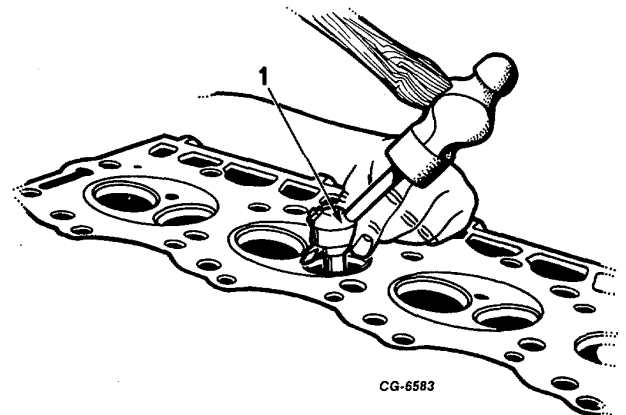

Fig. 120 Staking Valve Seat Insert in Cylinder Head with Peening Tool
5. Stake valve seat inserts securely in place. Use peening tool SE-2094 (Figure 120) or a dull pointed chisel 6.35 mm ($\frac{1}{4}$ ") wide topeen cylinder head metal over outer edge of insert. Peen material all the way around insert except injection nozzle area on intake valve insert.